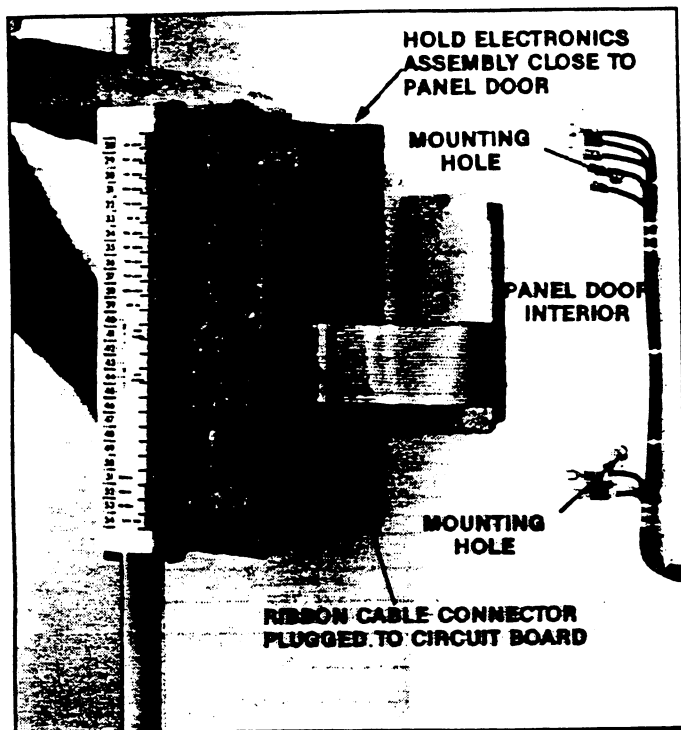

FIGURE 4-7
3. Reconnect ribbon cable connector to the plug on rear of electronics assembly/circuit board, as illustrated in Figure 4-7, holding electronics assembly close to panel door interior to alleviate any stress on cable/connector.